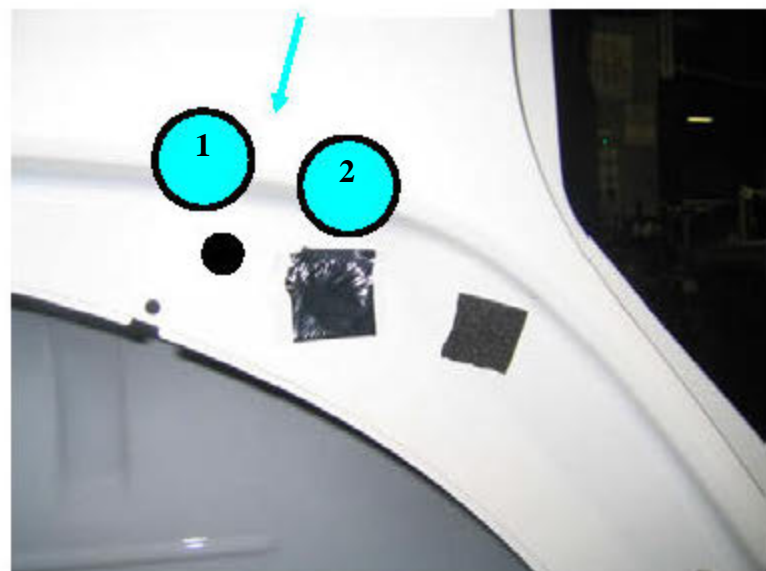

Figure 43
- Inspect the body for missing or mis-aligned tape over the hole as seen in Figure 43